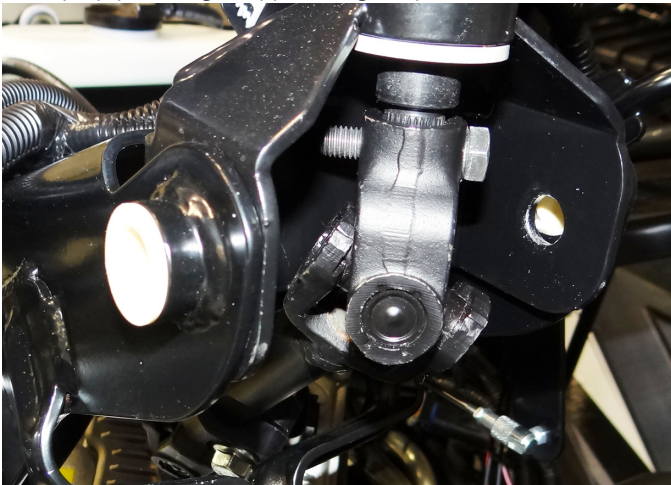

Fig. 24 Steering Column
3. With the aid of an assistant, place a ball peen hammer against the steering shaft end (24) and strike the hammer with another hammer while applying upward pressure to the steering wheel (Ref. Fig. 24) (See Fig. 23).